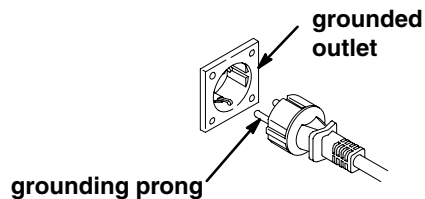

Fig. 5
- This equipment requires a 240V AC, 50 Hz, 16A circuit with a grounding receptacle. See Fig. 5.